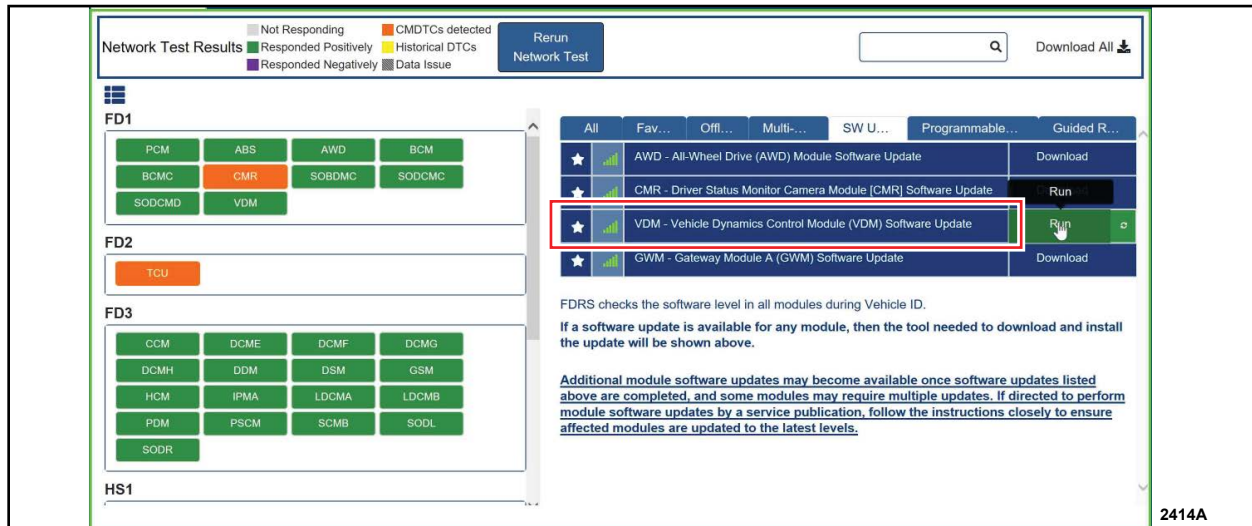

FIGURE 1
6. From the list on the RH side of the screen, select **VDM - Vehicle Dynamics Control Module (VDM) Software Update**. See Figure 1.